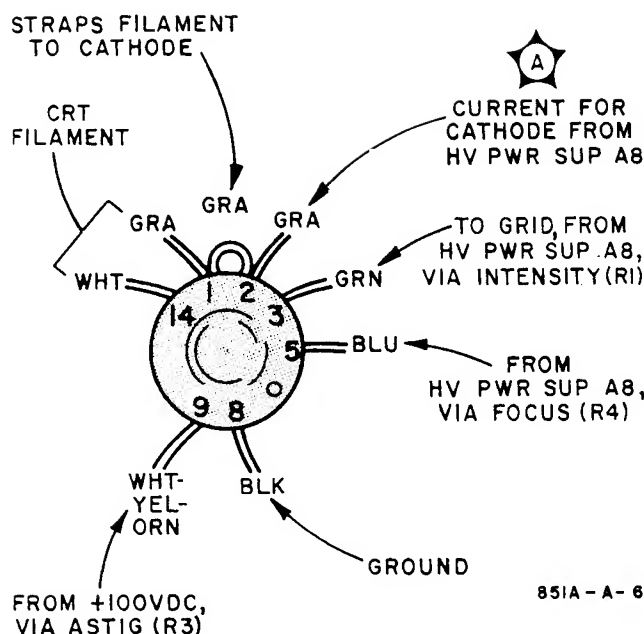

Figure 5-2. CRT Base as Seen from Rear,
- (1) Wiring to CRT base is shown in Figure 5-2. Note gray wire designated ; clip Milliammeter probe around gray conductor .